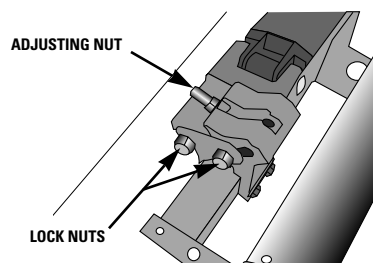

FIGURE 3
2. Loosen the two lock nuts on the end of one arm. See figure 3.